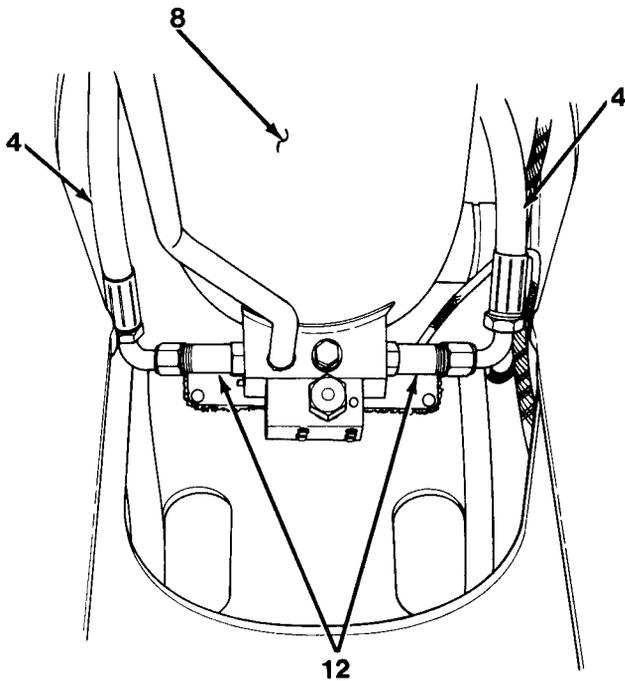

Figure 13-2
6. Disconnect two boom hoist cylinder hoses (4) from adapters (12) on boom hoist cylinder (8, Figure 13-2).
3. Secure boom hoist cylinder (8) in suitable Ming device. Lift and position boom hoist cylinder (8) in upperstructure. Install pin (7), rod (6) and capscrew and lockwasher (5) in cylinder end of boom hoist cylinder (8).
4. Clean threads of boom hoist cylinder hoses (4) and adapters (12) in boom hoist cylinder (8, Figure 13-2) with primer T.
5. Apply Lode 242 to hoses (4) and adapters (12).
- 60 Install hoses (4) to adapters (12) at a 50-degree angle up from the long axis of the boom hoist cylinder (8).